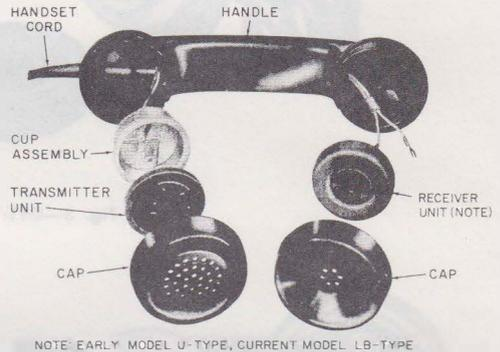

Fig. 1—G Series Handset
2.01 The G-series handset (Fig. 1) consists of a molded handle, receiver unit, transmitter unit, transmitter cup, receiver and transmitter caps, and a handset cord.